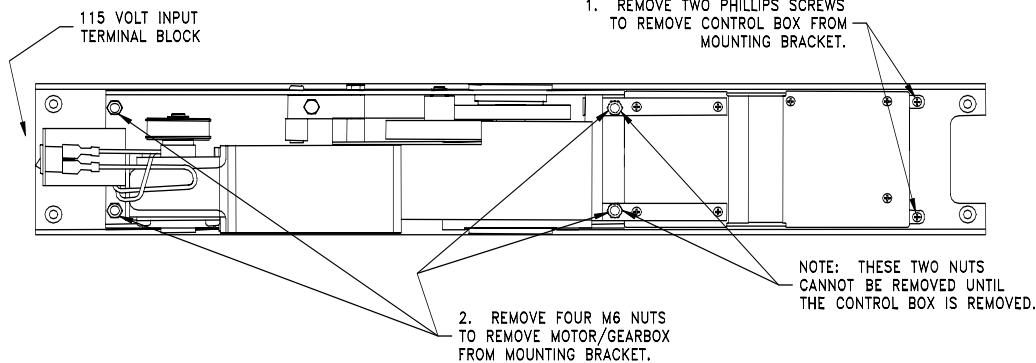

FIGURE 7: MOTOR/GEARBOX & CONTROL BOX REMOVAL
1. Remove the control box and motor/gearbox from the mounting bracket (Figure 7).
5. Connect power to the terminal block (Figure 7), matching black to black (live), white to white (neutral), and ground to the grounding stud.